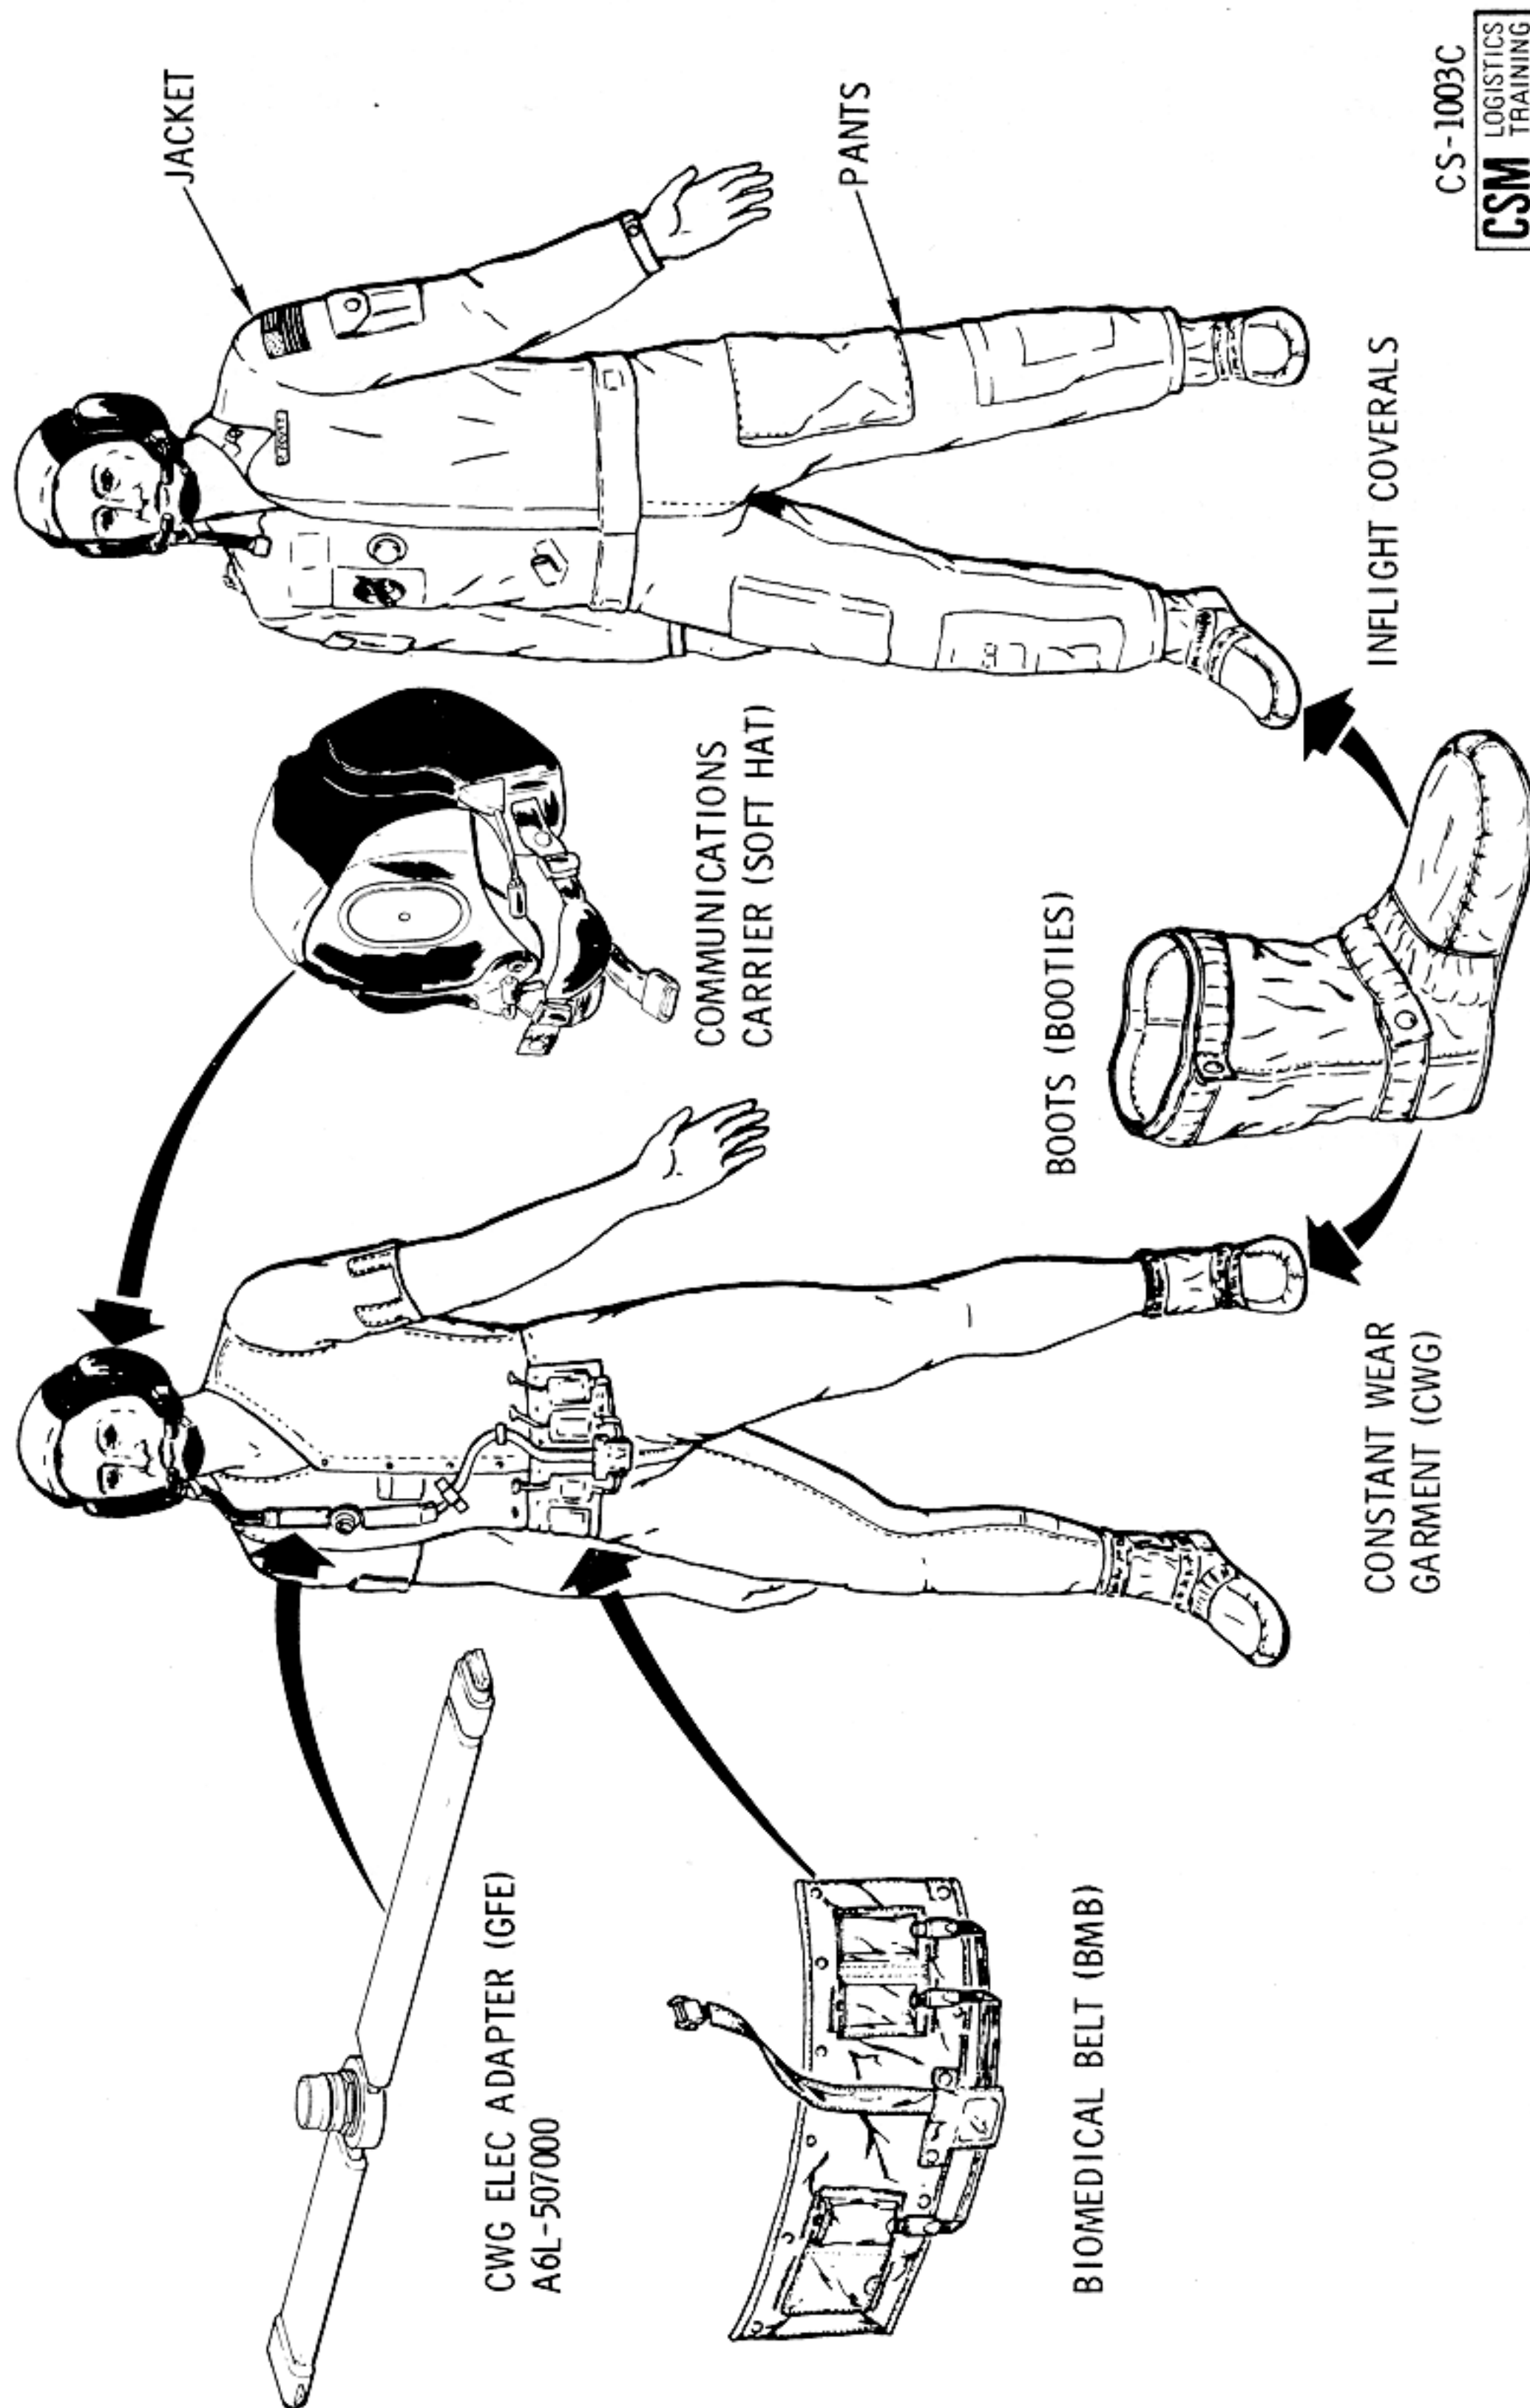

Figure 2.12-2. Shirtsleeve Environment Intravehicular Apparel
2.12.2.1.1 Bioinstrumentation Harness and Biomed Belt (Figure 2.12-2).
2.12.2.1.4 Constant Wear Garment (CWG) (Figure 2.12-2).
2.12.2.1.5 Flight Coveralls (Figure 2.12-2).
2.12.2.1.6 Communication Soft Hat, Lightweight Headset, and Eartube (Figure 2.12-2).
2.12.2.1.7 Constant Wear Garment (CWG) "T" Adapter (Figure 2.12-2).